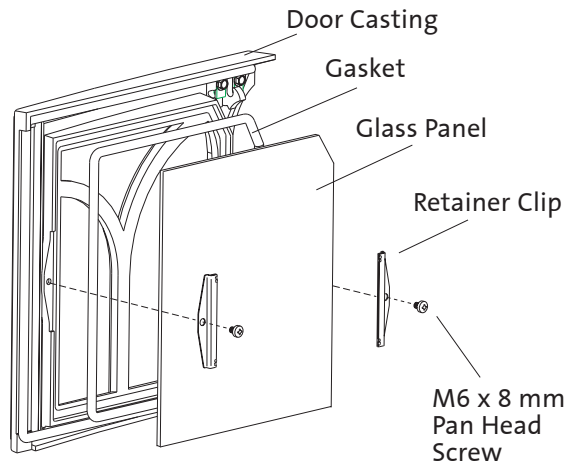

Figure 22. Glass Assembly Parts.
2. Carefully remove all of the glass clips from the inside of the door. See fig. 22.